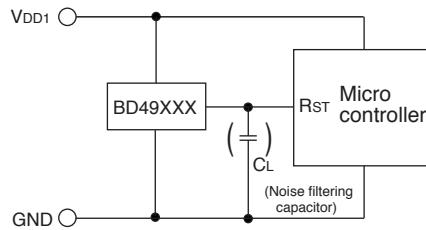

Fig.11 CMOS output type
- When the power supply of microcontroller and that of reset is same (VDD1). A product with CMOS output (BD49XXG/FVE series) can be used as shown in Fig.11. Or if RL is provided with open drain output (BD48XXG/FVE series) on the VDD1 side, it can be used.